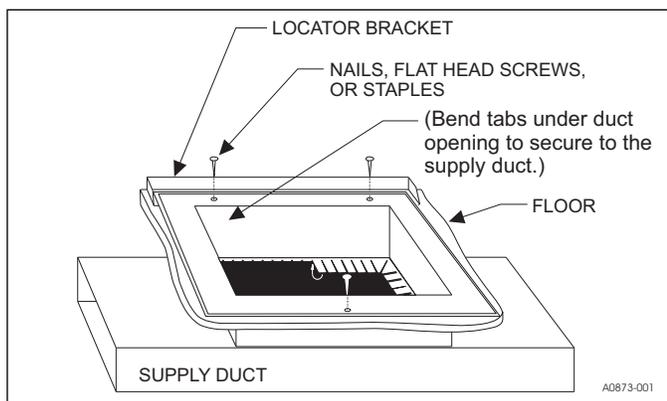

Figure 8: Duct connector tab attachment (7990 series)
3. Place locating bracket (supplied with the duct connector) to the rear of the floor area for the furnace. See Figure 8.